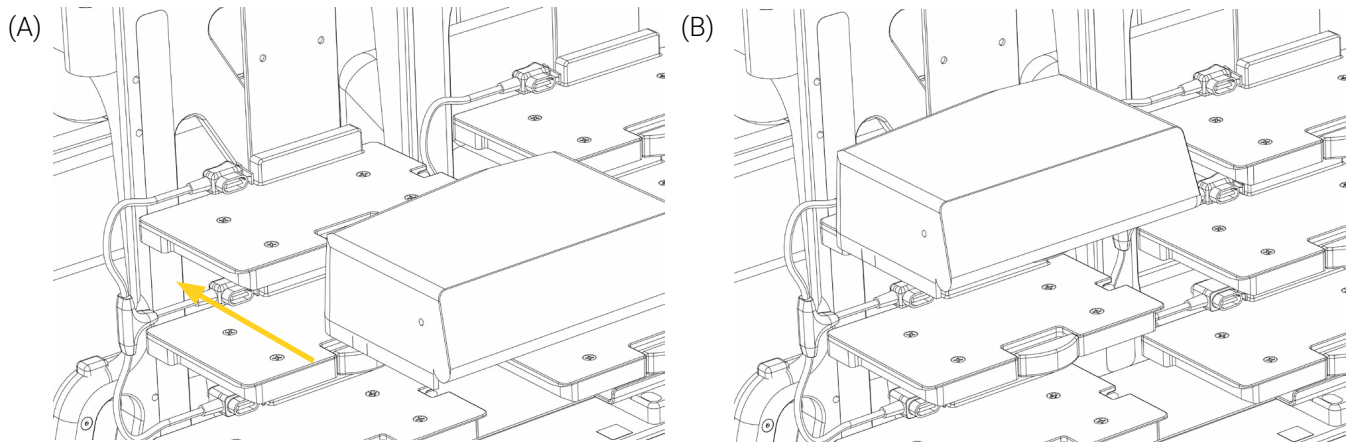

Figure 16: Installing the B. Braun Infusomat Space infusion pump
3. Align and insert the bottom grooves in the pump holder, then push the pump straight and all the way back until the locking mechanism of the holder is engaged (Figure 16).